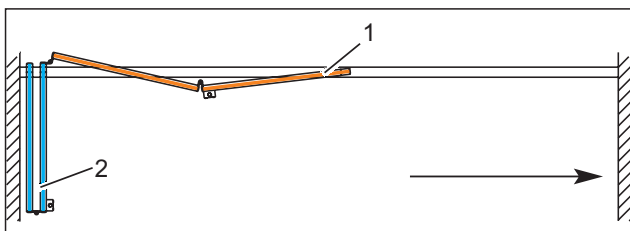

Fig. 19 Unfold panel pair – FSW EASY Safe
→ **The outside panel pair (Fig. 19/1) is unfolded in the FSW EASY Safe variant.**
3. Carefully move the inside panel pair (Fig. 19/2) in the FSW EASY Safe variant until the panel pair is fully unfolded. Hold the panels steady when sliding.